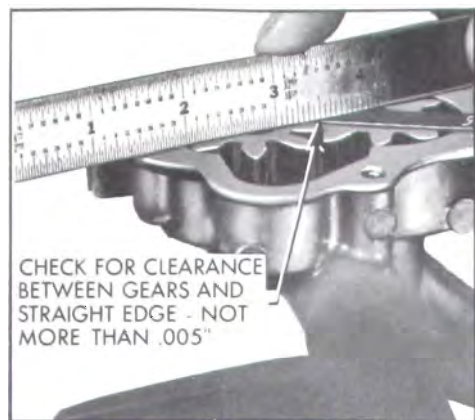

Figure 2-54—Checking Clearance of Gears at Cover
6. Check for clearance between gears and cover by using a straight edge as shown in Figure 2-54.